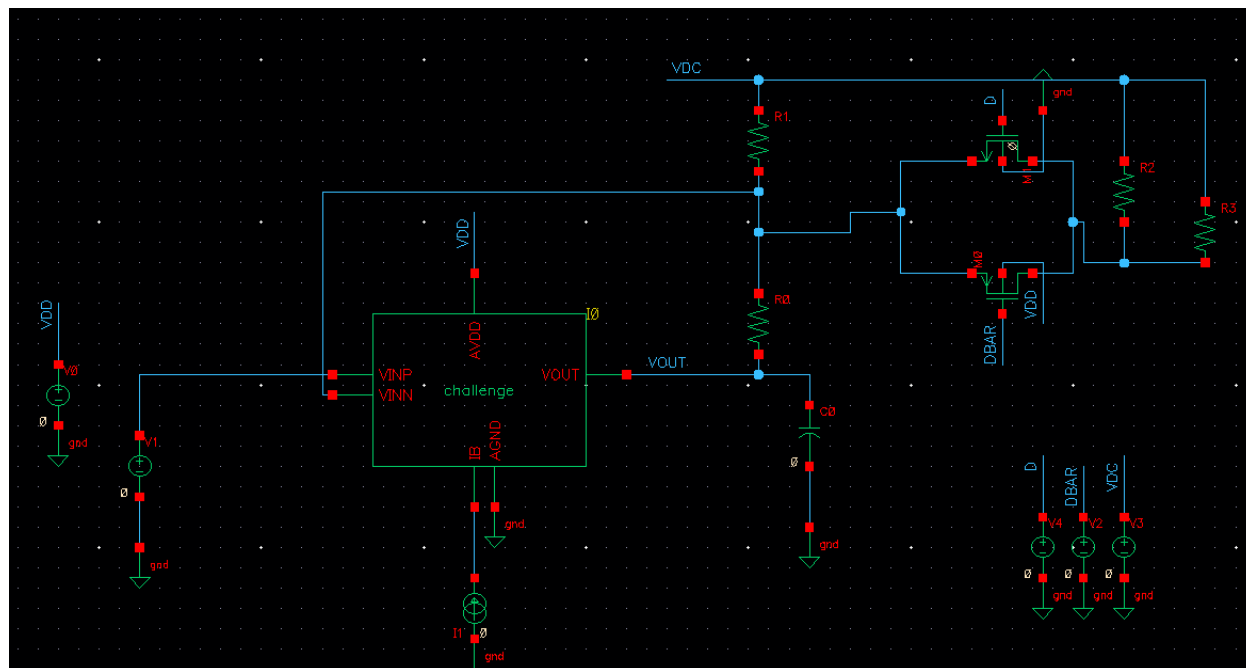

Figure 3.1
-I created a new testbench with a switch as shown in figure 3.1.